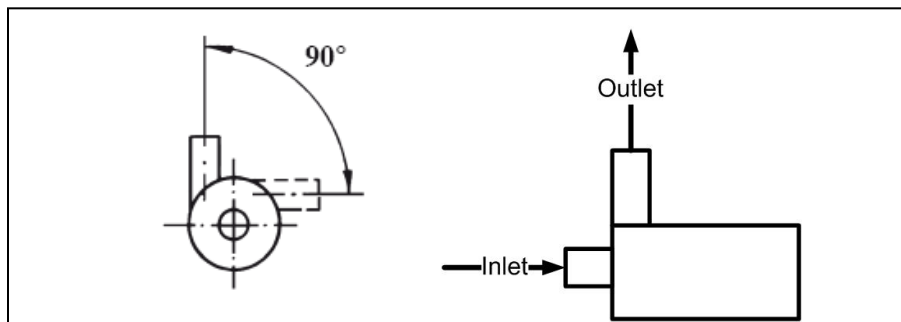

Figure 41: Coolant Pump, Horizontal
- Horizontally such that the outlet is above the pump body, see Figure 41 which illustrates the 90° of freedom SUB builders have in outlet fitting orientation.